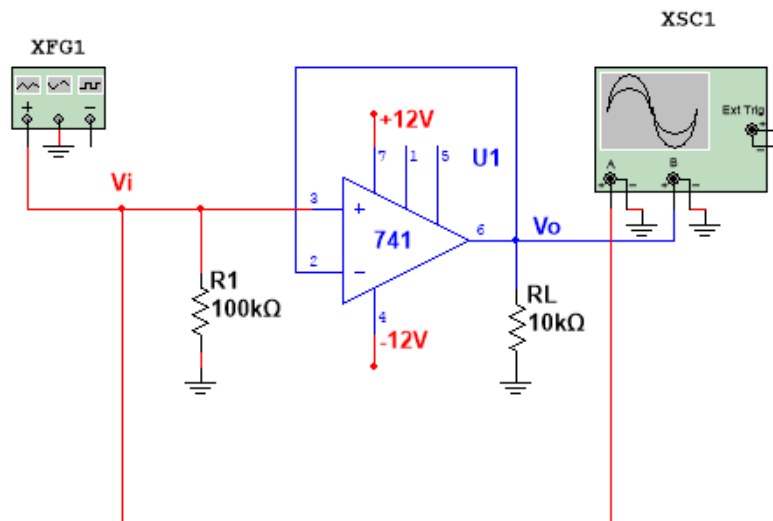

Figure 7.3: Non-Inverting voltage follower Amplifier
1. Connect circuit diagram according to given circuit shown in Figure 7.3.